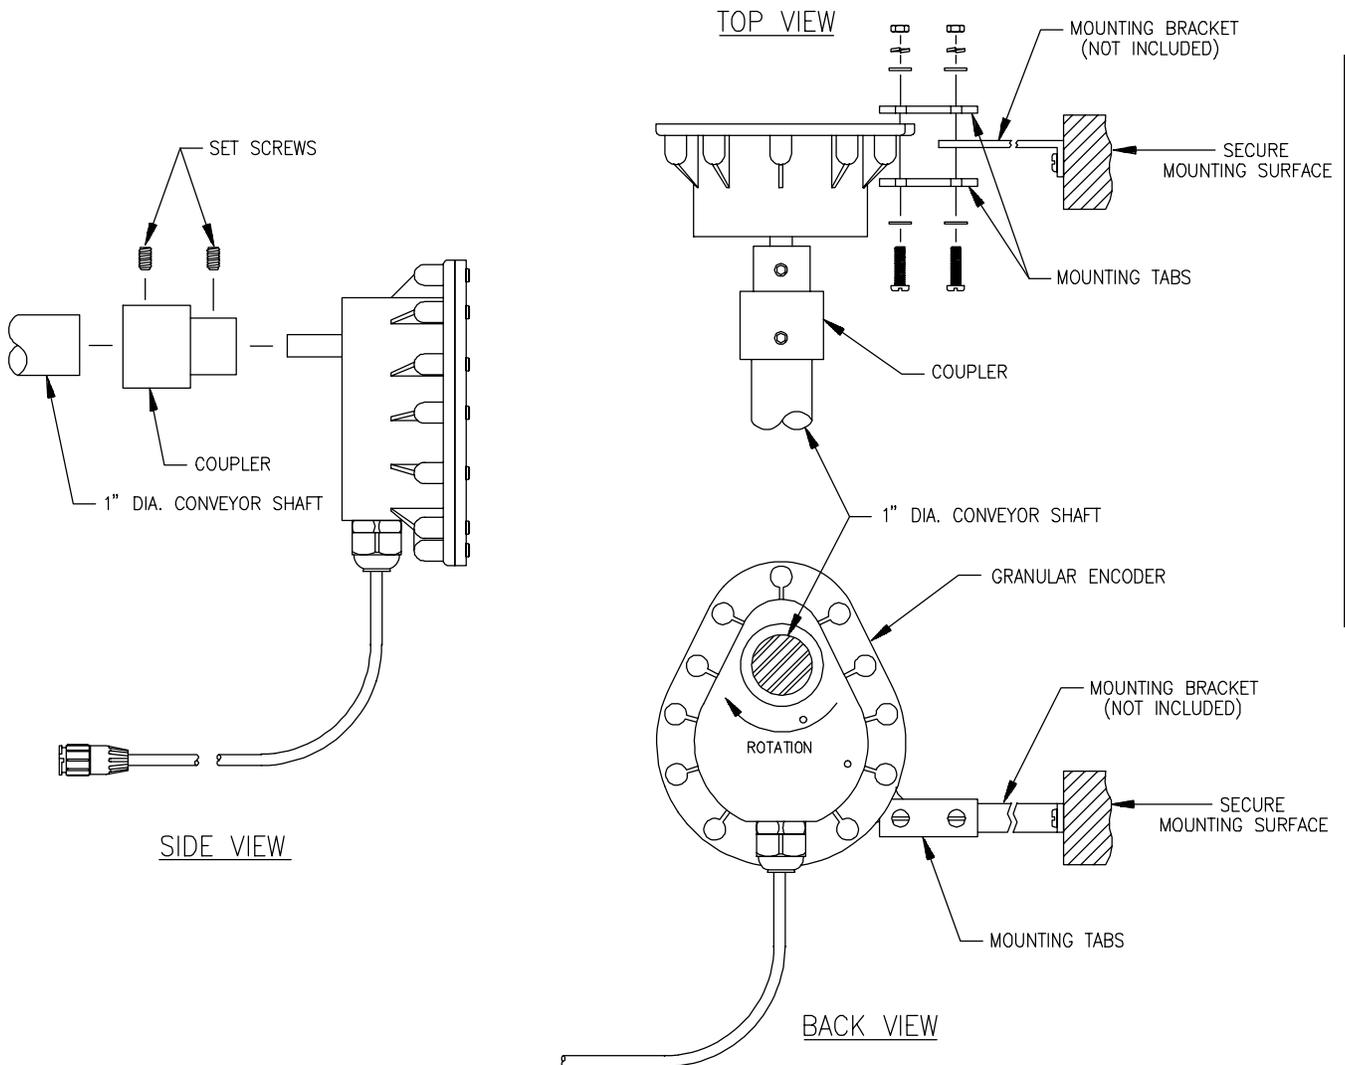

FIGURE 8
- 3) Install mounting tabs to Encoder as shown in Figure 8. Connect mounting tab to mounting bracket (not provided) to prevent Encoder from rotating. **DO NOT** rigidly mount Encoder. Encoder is to be supported by coupler **ONLY**.